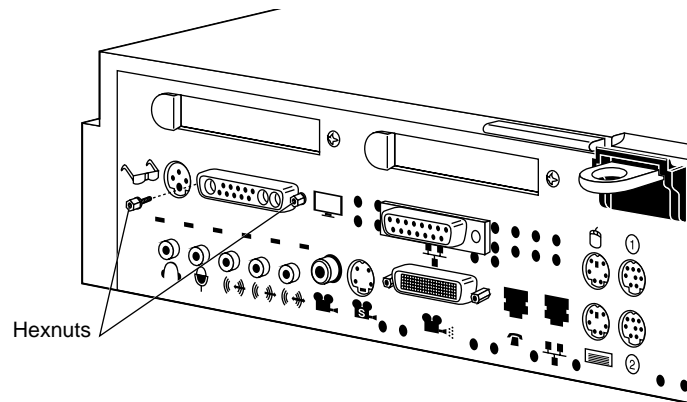

Figure 9 Removing the screws from the graphics board's I/O connector
1. Use the open-ended wrench to unscrew the two hexnuts on either side of the graphics board's I/O connector on the rear of the workstation, as shown in Figure 9. The wrench is provided with this upgrade.